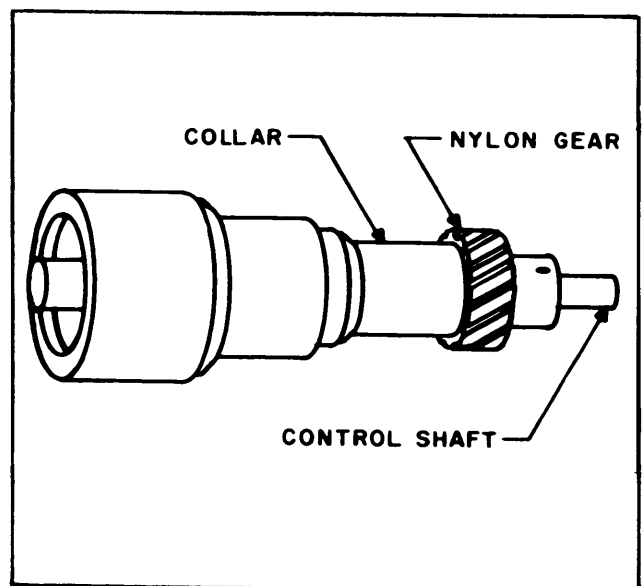

Figure 6-3. Vacuum Capacitor C113, Replacement
Step 4. Turn the control shaft and nylon gear (figure 6-3) on the new capacitor until the collar does not turn freely. Add one more quarter turn.